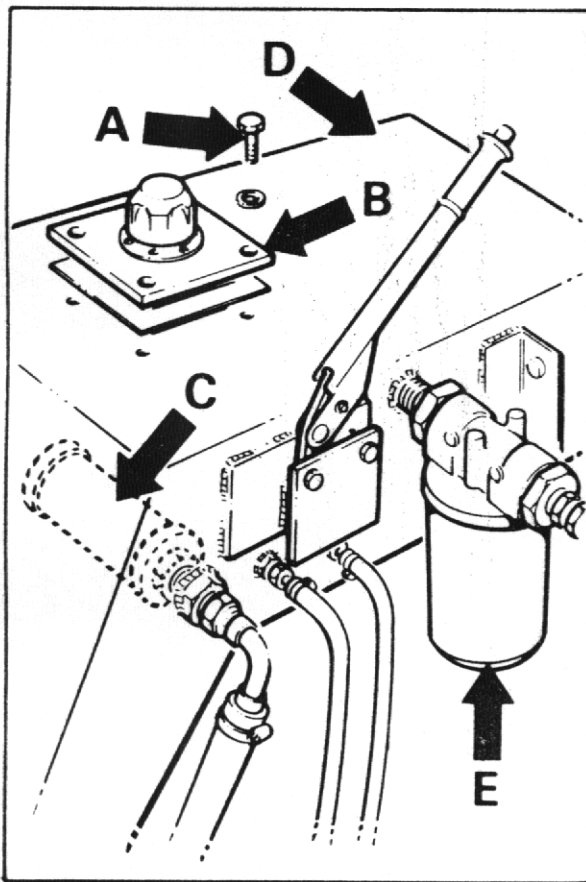

FIG. 8
2. Check that hydraulic suction filter is not blocked. (See fig.8).
- a) Remove the four setscrews (A) that secure the filler cap assembly (B) and remove assembly.
- b) Unscrew suction filter (C) from inside tank (D) and wash in white spirit. Dry with moisture-free compressed air.